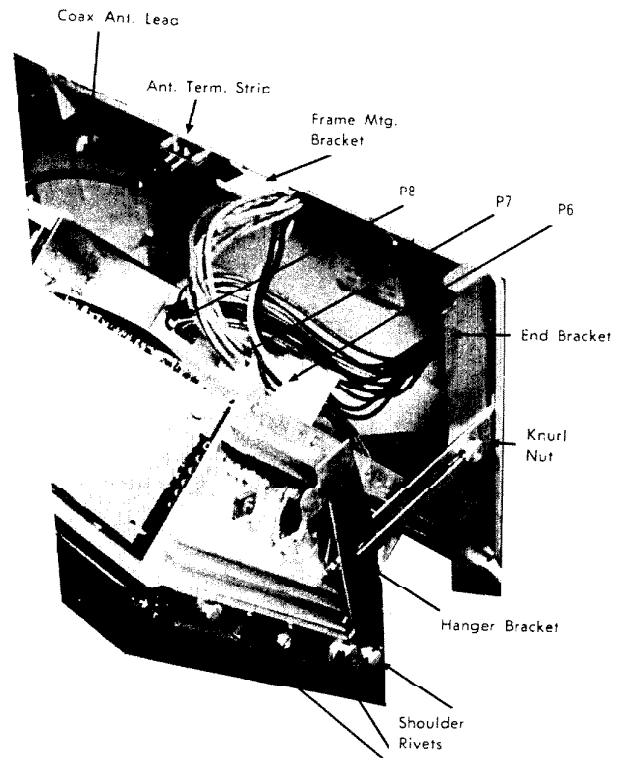

Fig. 1.30
(3.2) While supporting receiver in one hand, disconnect the coax antenna lead from ant. term. strip; and plugs P6, P7 and P8 from sockets S6, S7 and S8 respectively. (Fig. 1.30)
(3.3) Loosen knurl nut supporting hanger bracket on each side of receiver. (Fig. 1.30)
(3.4) Pull receiver, in hanger bracket all the way forward and tighten knurl nuts. (Fig. 1.30)
(3.5) Lift receiver so that top shoulder rivet clears its rest and tilt receiver forward until resting in position shown in Fig. 1.30. Bottom shoulder rivet acts as stop.
(3.6) Disconnect the coax antenna lead from ant. term. strip; and plugs P6, P7 and P8 from sockets S6, S7 and S8 respectively. (Fig. 1.30)
(3.7) Lift receiver chassis so that second rivet on each side clears its bottom rest and remove receiver from between mounting brackets. (Fig. 1.30)
2. When used, disconnect audio cables from record player, tape player, etc. from jacks in bottom of receiver chassis. (Fig. 1.30)
3. Loosen knurl nut supporting hanger bracket on each side of receiver. (Fig. 1.30)
4. Pull receiver in hanger brackets all the way forward and tighten knurl nuts. (Fig. 1.30)
5. Lift receiver so that top shoulder rivet clears its rest and tilt receiver forward until resting in position shown in Fig. 1.30. Bottom rivets should stop forward travel.
6. Disconnect the coax antenna lead from ant. term. strip; and plugs P6, P7 and P8 from sockets S6, S7 and S8 respectively. (Fig. 1.30)
7. Lift receiver chassis so that second rivet on each side clears its bottom rest and remove receiver from between mounting brackets. (Fig. 1.30)